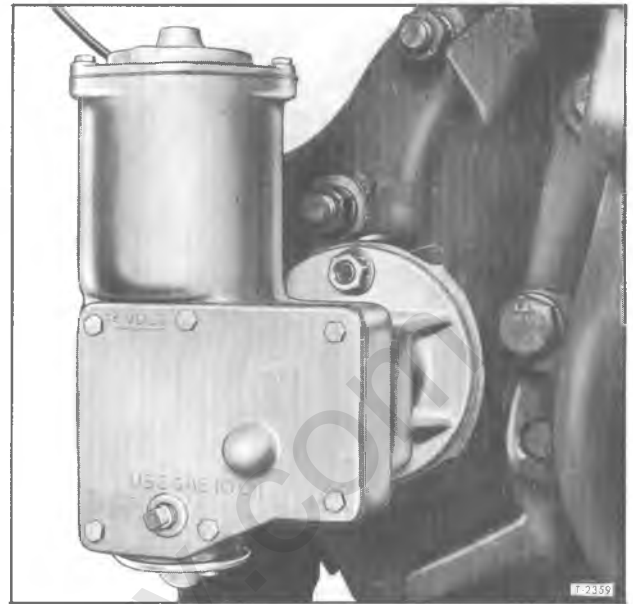

Figure 6—Two-Speed Electric Shift Unit Installed (Eaton Axle Shown)
The shift unit and automatic switch assembly is mounted on differential carrier (fig. 6). This unit, controlled by the control switch, shifts the axle into "LOW" or "HIGH" range.
1. Remove two shift housing to carrier stud nuts and lock washers (fig. 6).